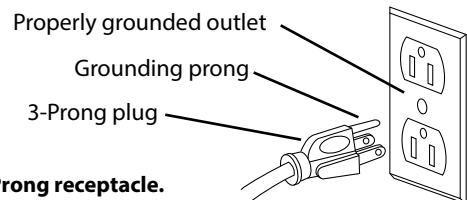

Figure 5 – 3-Prong receptacle.
- This tool is equipped with an approved 3-conductor cord rated at 300V and a 3-prong grounding type plug (See Figure 5) for your protection against shock hazards.
- Grounding plug should be plugged directly into a properly installed and grounded 3-prong grounding-type receptacle, as shown (Figure 5).